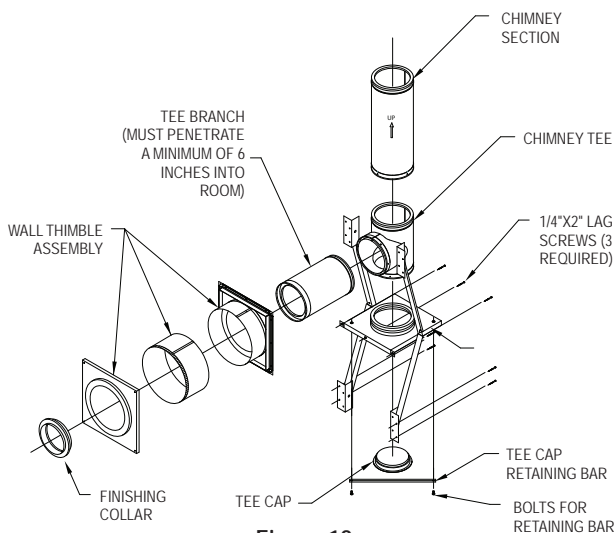
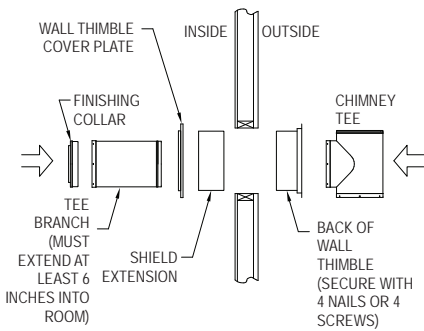

Figure 19
Figure 20
shield. On the outside wall, install the back portion of the Wall Thimble. Center the back portion of the Wall Thimble (with shield inside wall) in the framed opening of the outside wall. **Be sure to seal the flange of the Wall Thimble around the wall by using a non-hardening waterproof sealant.** Attach the back portion of the Wall Thimble to the outside wall using at least (4) 8-penny nails or (4) 1-1/2" wood screws (**Fig 20**). Depending on the thickness of your wall, you will need to adjust the shield extension to insure that you have a continuous shield throughout the wall penetration. Adjustments can be made by sliding the extension in or out of the back portion of the shield. Verify that the shield extension reaches the front cover plate when the cover plate is in position. Do not install cover plate at this time. When the shield extension is in position, secure it to the back portion of the shield using (4) sheet metal screws (**Fig 20**).
Support so that the chimney Tee will be centered inside the Wall Thimble (**Figs 19 & 20**). Important: Verify that Tee Support is level, then secure Tee Support to outside wall using (3) 1/4"x 2" long lag screws for the support base, and (8) #8, 2-1/2" wood screws for the brackets (2 screws per bracket). Be sure to keep the Tee Support level.
Important: The Chimney section used to penetrate through the wall must extend at least 6" into the room. Secure the Chimney Branch to the Tee by using the (6) sheet metal screws provided. It is very important that a good connection is made between the Branch and the Tee. (**Fig 20 & 21**) Install the Tee Cap in the bottom of the Tee, on the underside of the Tee Support Bracket. Be sure that the Tee Cap is securely inserted into the bottom of the chimney pipe. Secure the Tee Cap in place by attaching the Tee Cap Retainer Bar using the two (2) bolts included (**Fig 19**).